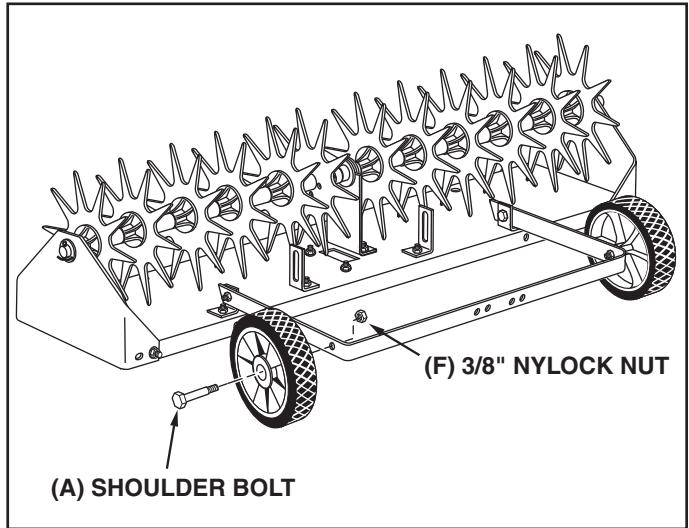

FIGURE 3
4. Assemble the wheels to the axle bracket using a shoulder bolt (A) and a 3/8" nylock nut (F) for each wheel. **Tighten**. See figure 3.